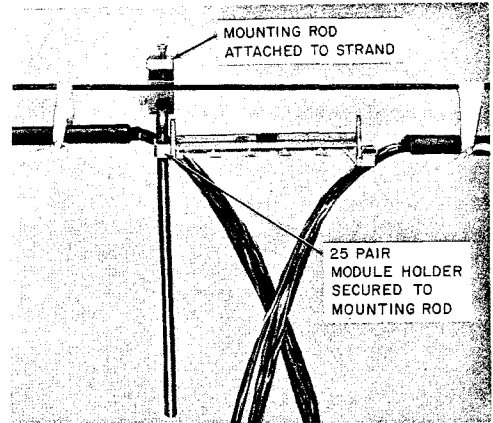

Fig. 37—25-Pair Module Holder Mounted on Strand
4.45 Installation of 25-pair and 5-pair module holder on a strand for splicing 25 and 5 pair are shown in Fig. 37 and 38, respectively. The 5-pair module holder can also be held in the hand as shown in Fig. 39. The 945A tool can also be mounted on the B support frame with press clamp assembly or 710A tool mounting as previously illustrated for the other tools.